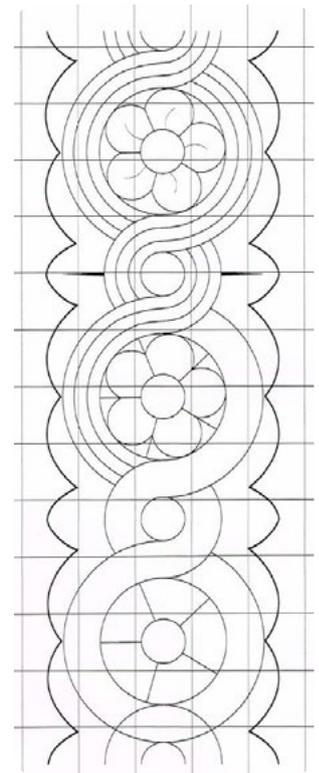

Figure 1.
1. Photocopy or redraw the design to scale referring to Figure 1. Recreate the drawing so that each square of the grid measures precisely 20mm. It is advisable to use a compass to form the circles. Once the drawing is accurately reproduced, you could make a stencil, which will help when marking out long lengths of the repetitive design.